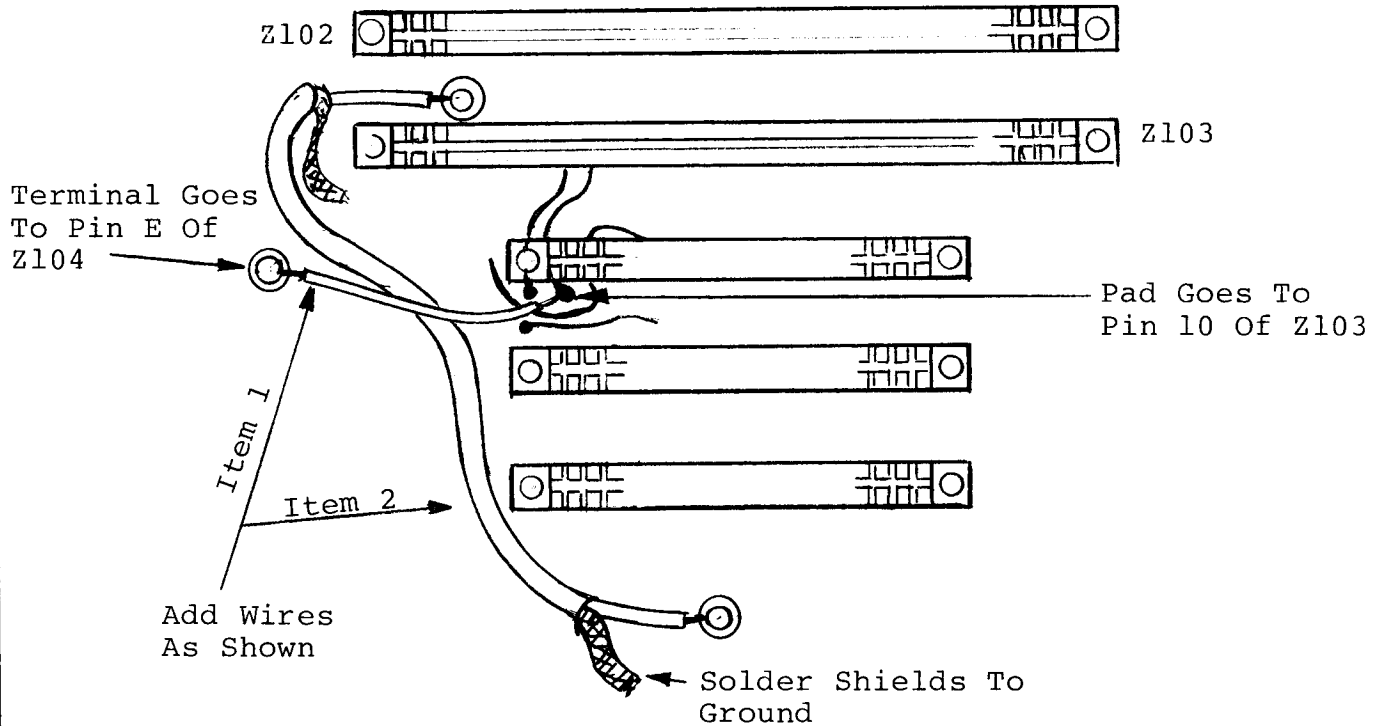

Figure 1B
3. Add jumpers (items 1 and 2) as shown in Figure 1B.